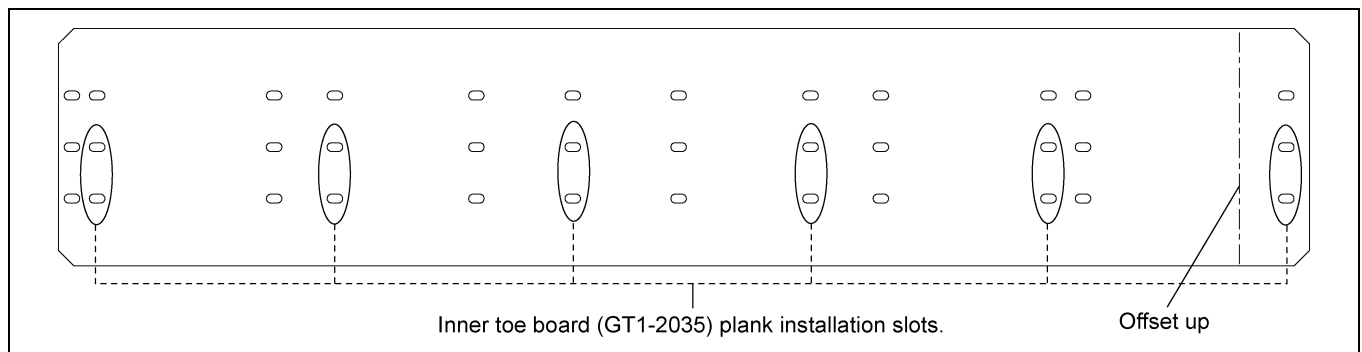

Figure 4K 30' Inner Toe Board (GT1-2035)
3. Inner toe board (GT1-2035) is arranged with many slots to install plank. Install planks to corresponding slots as shown in Figure 4K.